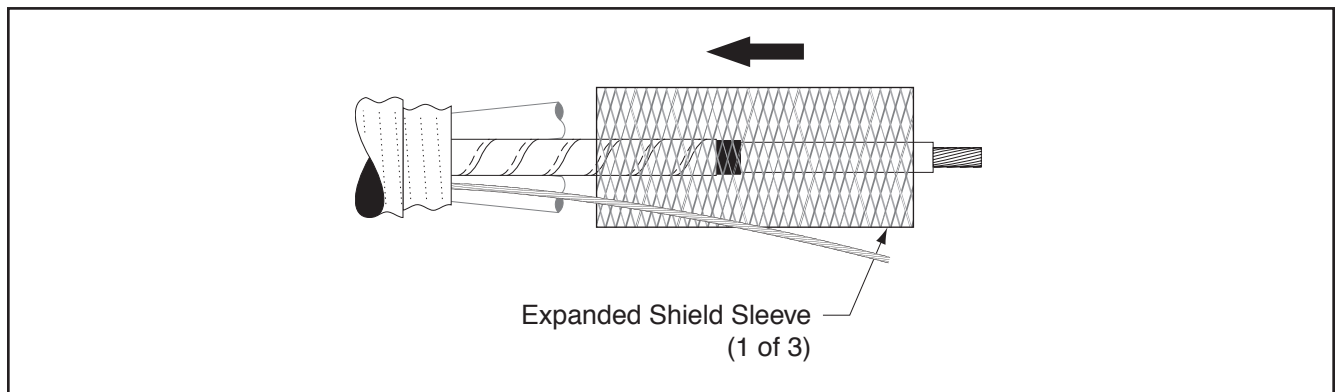

Figure 7
2.3 Slide the expanded shield sleeves onto Cable X, one per conductor, until the cable semi-con is visible (Figure 7).